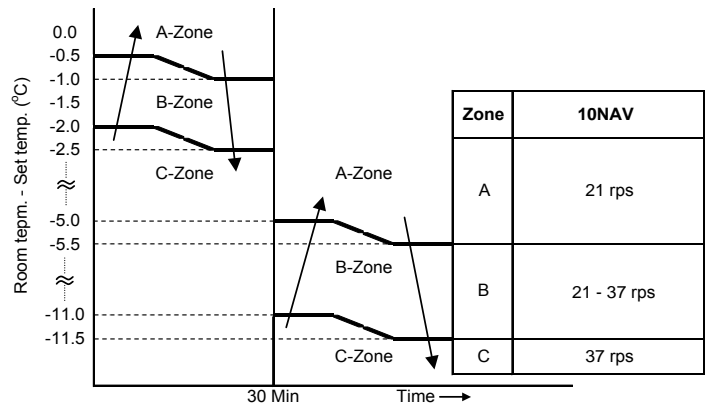

Fig. 8-2-10
- 2) Compressor motor speed is controlled by the difference value of room temperature and set temperature as shown in Fig. 8-2-10